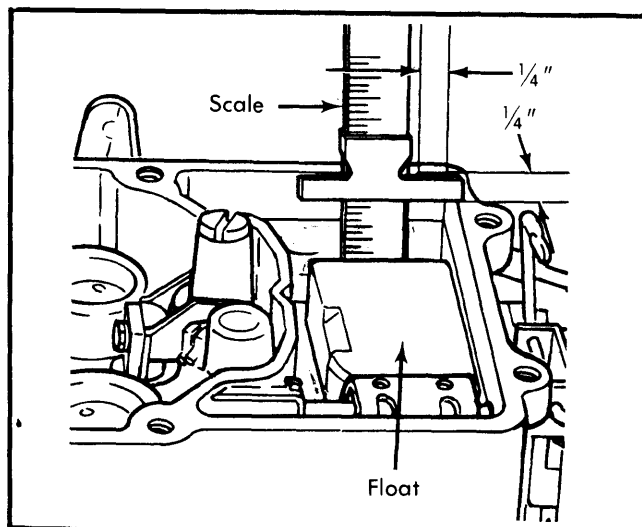

Fig. 3 Adjusting Float Level (Wet Setting)
1) Warm up engine to operating temperature. Ensure vehicle is on flat, level surface. Stop engine and remove air cleaner and air horn attaching screws. Leave air horn in position on carburetor. Start engine. See Fig. 3.